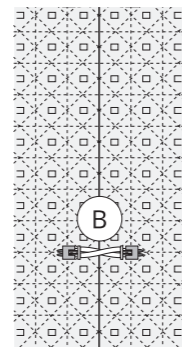

Figure 3
Use the long sheet-to-sheet connection wires (C) to bridge gaps and/or connect offset sheets as shown in Figure 3.
Route the connection wires so that the light from the LEDs is not blocked and hold the wires in this position using cable management clips with silicone adhesive backing (G) as shown in Figure 3. Once applied, let this adhesive backing cure for 10-30 minutes before routing wires through the clip. When possible, use a mechanical fastener to secure the clip.